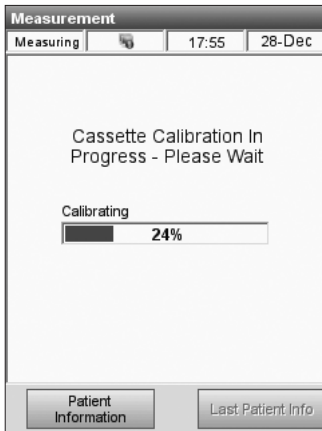

Fig. 5-9 Cassette Calibration
- The system will now check the integrity of the cassette and then calibrate (Fig. 5-9). For more information about calibration, please refer to Chapter 4 “Calibration and Quality Control”.